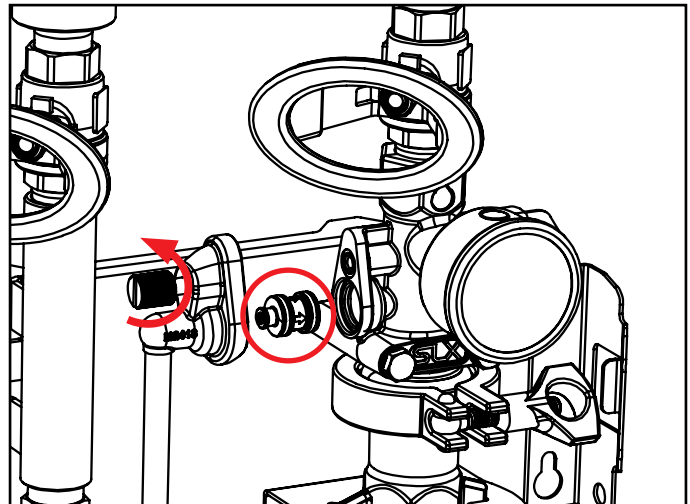

Fig. 9.2: Chemical inlet check valve removed
5. The check valve will be seated either inside of the elbow or the body. Grab it and pull to remove. [Fig 9.2]